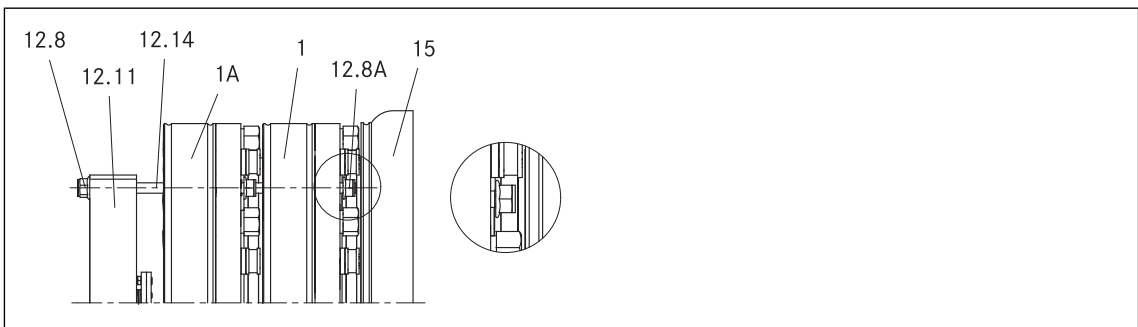

Fig. 17 Pre-assembly of the brake with manual release on the motor
- Evenly tighten the brake with the six socket head cap screws (10) included in the scope of supply in several runs using a torque key (as shown in Figure 17).
10. Use a torque key to re-tighten the supplied fixing screws (10) with the required tightening torque (📖 16).